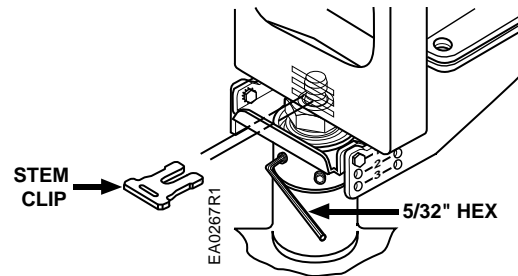

Figure 20. Electro-Mechanical Actuator.
3. Remove the stem clip holding the valve stem. See *Figure 20*.
5. Use a 5/32-inch hex wrench to loosen the set screws in the bonnet bracket. See *Figure 20*.